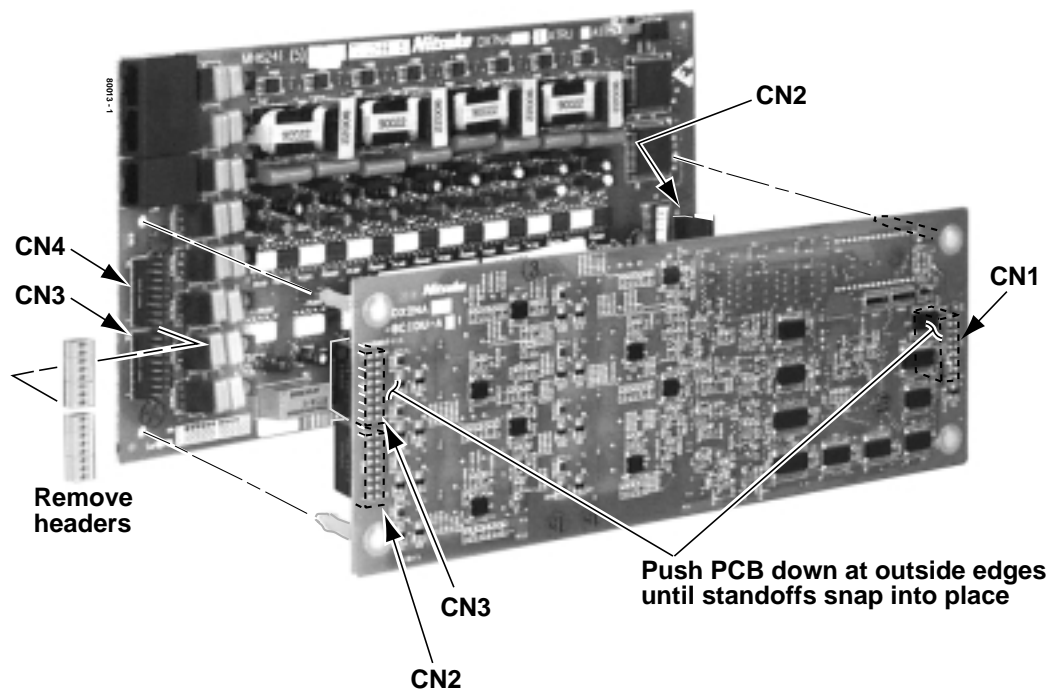

Figure 2-12 INSTALLING THE 8 CIRCUIT CALLER ID DAUGHTER BOARD
### 8 Circuit Caller ID Daughter Board (Figure 2-12)
3. Remove the headers from 8ATRU PCB connectors CN3 and CN4 and store in a safe place (see Figure 2-12).